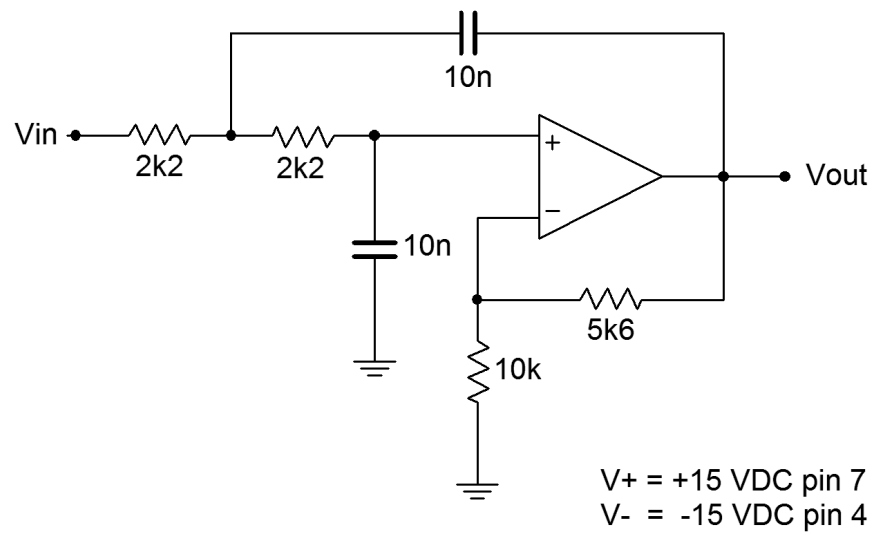

Figure 1
1. The circuit of Figure 1 is a second order low pass filter. Calculate and record the corner frequency ( $f_2$ ) and mid-band voltage gain in Table 1.
2. Assemble the circuit of Figure 1.